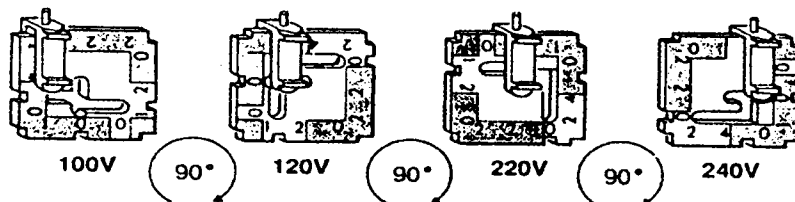

Figure 2.2 - Voltage Selector Card Orientation
5. Orient the indicator pin to point up when the desired voltage is readable at the bottom (See Figure 2.2 below).